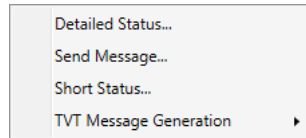

Figure 3-40 – DMS Context Menu
- **DMS Context Menu** (see Figure 3-40): If the DMS is configured to display travel time messages, the operator may set generation of travel time messages for the sign on or off. The context menu also allows the operator to pull up control dialogs with the specific DMS (being hovered over) being selected in the control GUI.